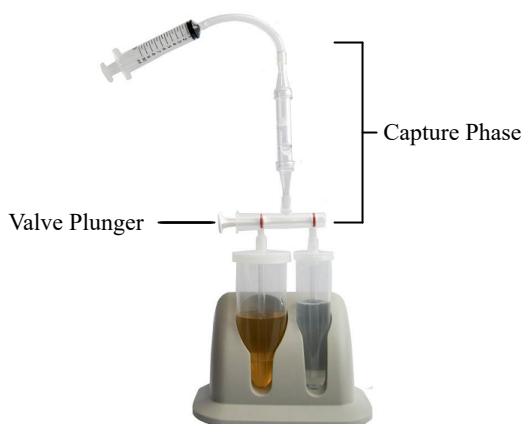

Figure 3 Sample and Elution Vessels assembled with capture phase
5. Holding both vessels, carefully lift the assembled vessels and attached capture phase kit out of the Sample Vessel Holder (Figure 3).